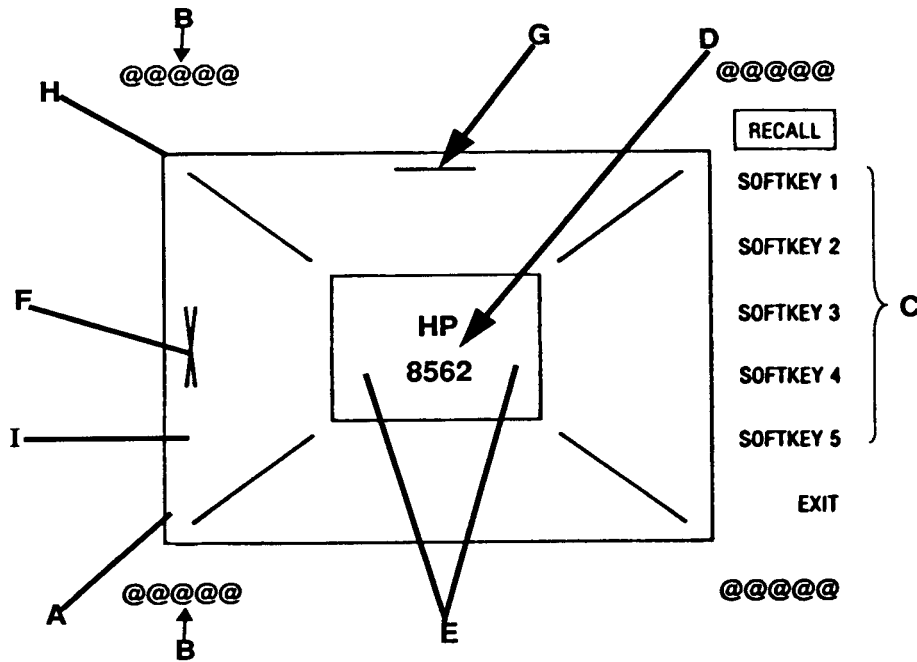

Figure 1. Crt adjustment pattern.
2. Refer to C in figure 1 for softkey location.
c. Press TI keys as listed in (1) through (3) below:
- (1) **INSTRUMENT STATE RECALL**
- (2) **[MORE]**
- (3) **[CRT ADJ PATTERN]**
d. Adjust **TRACE ALIGN** (rear panel) until leftmost line of test pattern A (fig. 1) is parallel with crt bezel.
e. Adjust **X POSN** (rear panel) until leftmost @ characters B (fig. 1) and softkey labels C (fig. 1) appear just inside left and right edges of crt bezel.
f. Adjust **Y POSN** (rear panel) until the softkey labels C (fig. 1) align with the appropriate softkeys.